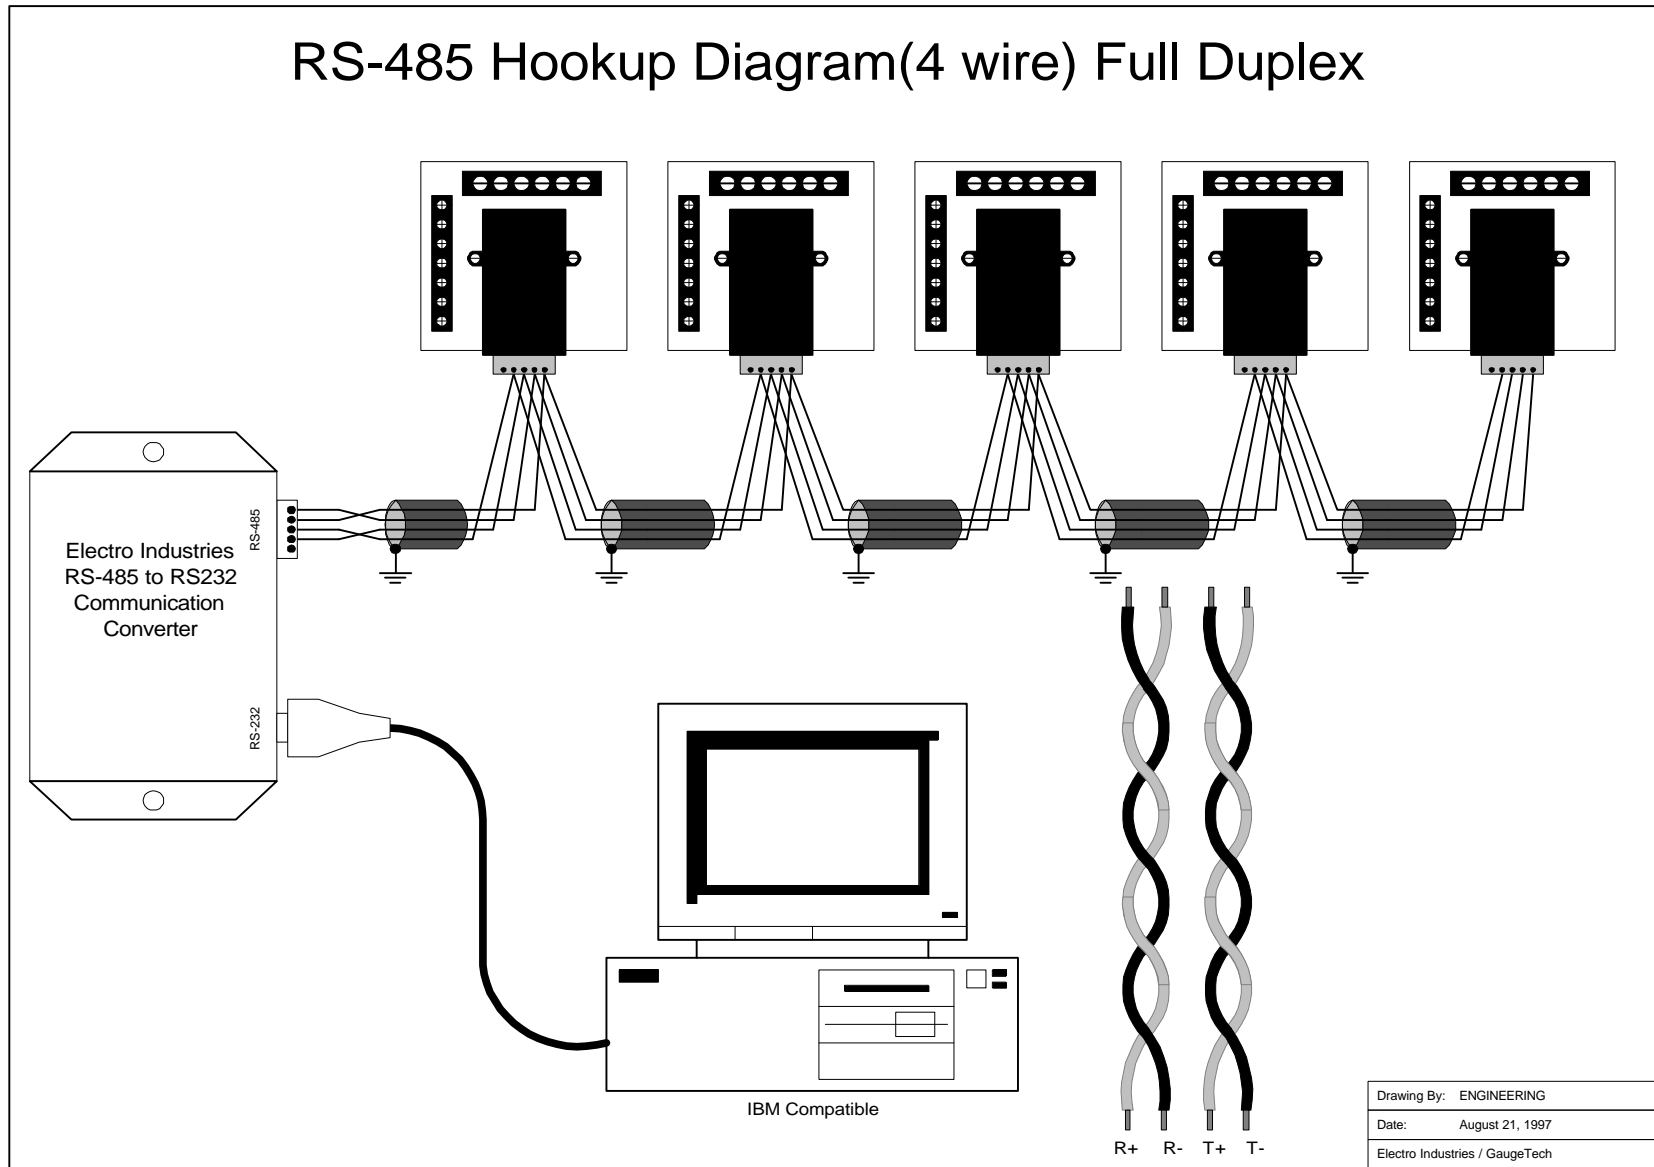

Figure 3.5 4-Wire RS-485 Communication Connection Installation Full Duplex
- Meanwhile, in a four-wire connection, a maximum of 3600 instruments can be included in the same link, (Figure 3.5).